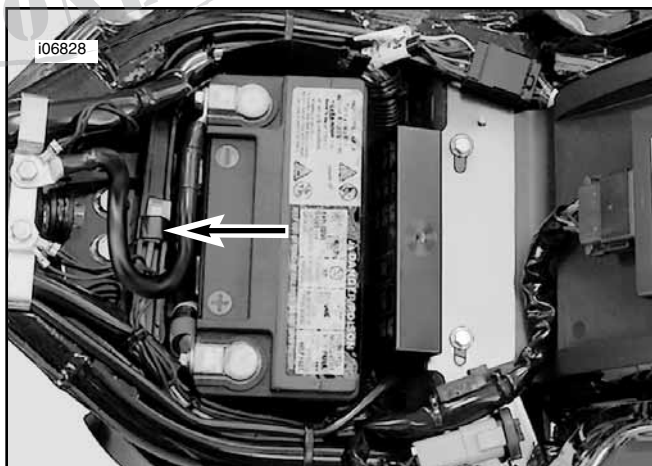

Figure 12. B+ Connector [160B] (2004 FXST shown)
- a. See Figure 12. Route the white wire and connector to the B+ connector [160B].